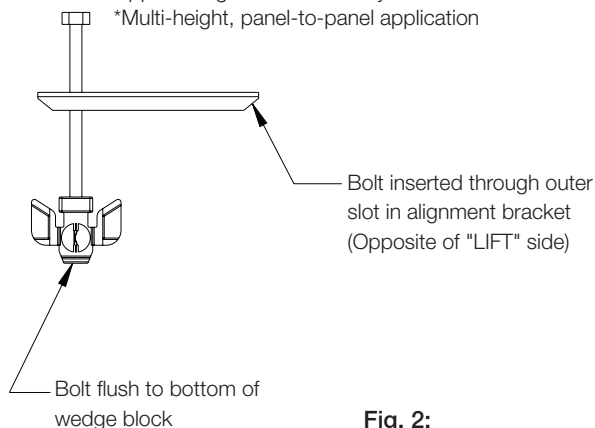

Fig. 2:
4. Position upper wedge block into established panel. Note that the alignment bracket fits into the slot in the cable trough and the wedge block is inserted into the cutout located beneath the cable trough (**Fig. 2**).